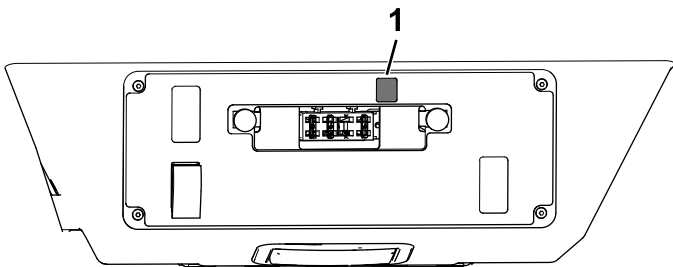

Figure 24
2. Apply decal 145-7727 to the console panel assembly as shown in Figure 24.